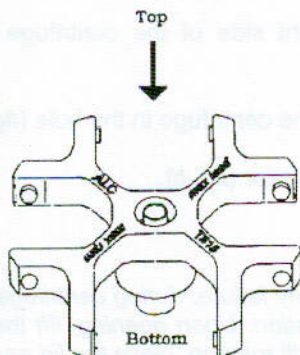

fig. 1
1. Control the right side of the rotor. Caution: keep always the silk-screen printed on the rotor up (fig. 1).